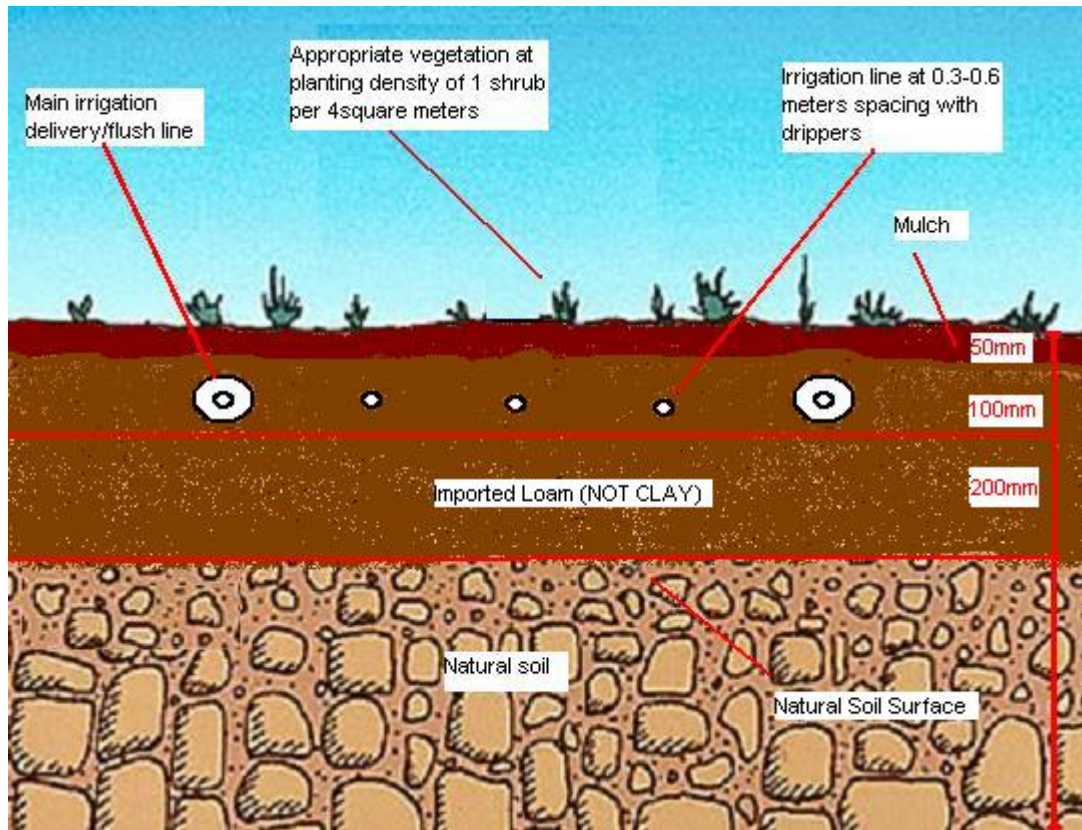

Figure 1 Irrigation cross section showing major delivery/flush lines and irrigation lines.
- c. Imported topsoil (not clay) should be applied as shown in Fig 1 above. Do not compact this layer, and avoid travelling over with large machinery.
- d. Irrigation should be laid as per the specifications below (point 3-4) and covered with further topsoil as per Fig 1 above.
- f. Mulch should be placed over the site as shown in Figure 1 above.